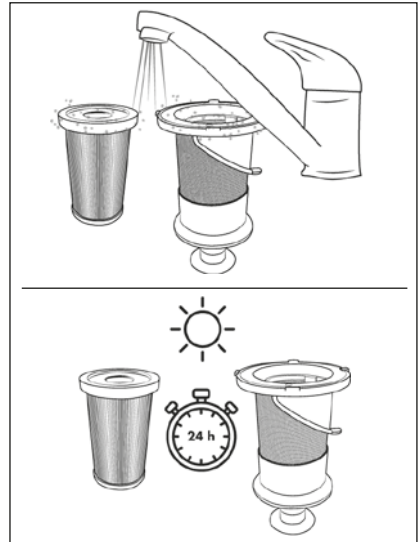

Fig. 20
- 5) Rinse the HEPA filter **4** and the stainless steel filter **5** under cold or lukewarm water. Allow the HEPA filter **4** and stainless steel filter **5** to air dry completely before putting them back into the dust container **6** (see Fig. 20).